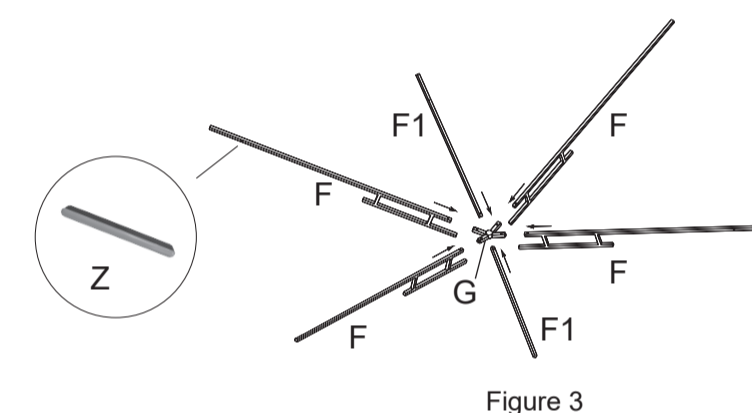

Figure 3
Insert Top Tubes (F/F1) into the Connector Hub (G). Repeat this step 4 times as shown in Figure 3.